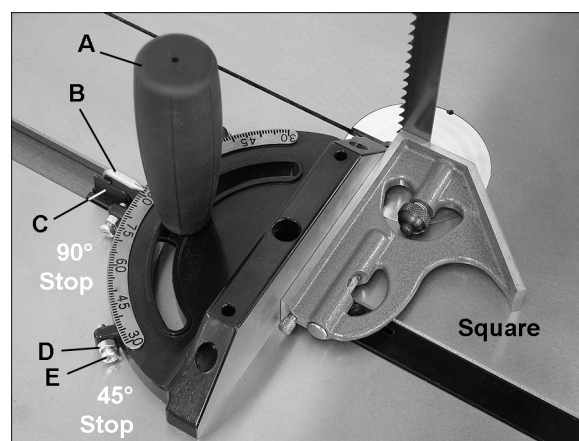

Figure 7-3
1. Place a square against miter gauge face, and against flat of blade, as shown in Figure 7-3. (Place square against flat of blade, not against the teeth which are set wider than the blade body). A wide blade is preferred for this procedure.